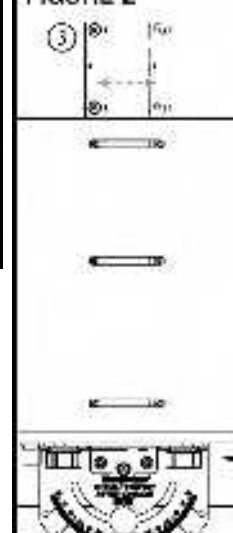

**FIGURE J-2**
15. To install, place a Track Nut (16) into the cutout, with the raised side facing the hole, then install a Flat Head Screw (17) into the countersink on the other side of the Miter Bar. Tighten fully using the Hex L-Key. **FIGURE J-2**
16. One Zero Clearance Block (8) is included. This MDF block helps push the offcut past the blade and prevents tear out on the backside of the cut. To install the Zero Clearance Block, pre-install the Button Heads (14), #10 Washers (14), and #10 Track Nuts (16) into the block, then slide into the rear slot of the Fence Track. Additional blocks are available for purchase in 3-packs, or you can make your own. **FIGURE K**